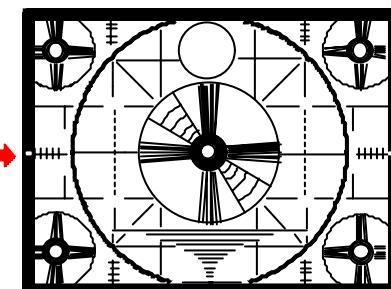

Fig.2-1 NTSC MONO-SCOPE
2. Use the VOLUME + or - key on the remote controller to adjust and equalize both the right and left horizontal scales. (Fig. 2-1)